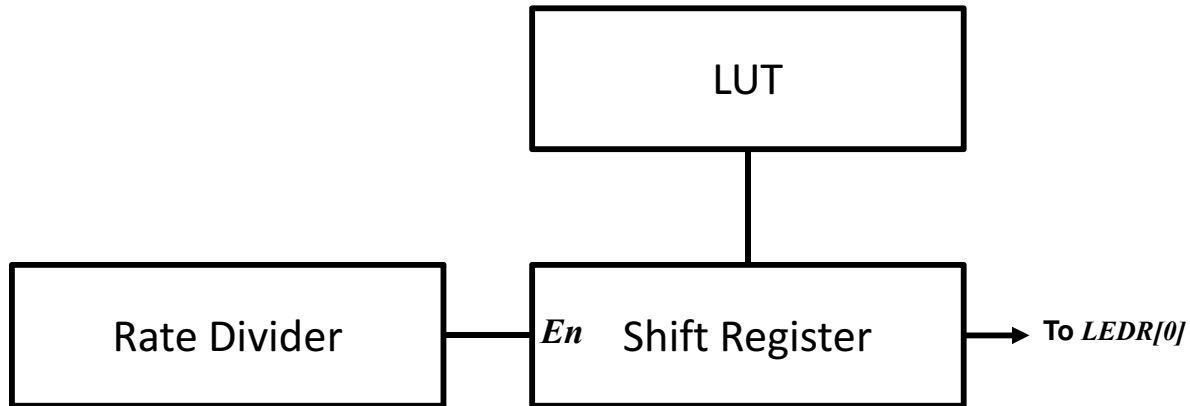

Figure 4: Block diagram of the Morse code circuit
A high-level block diagram of the circuit you are building is shown in Figure 4. Note that various details/connections are not shown there.
2. ✓ Design your circuit by first drawing a schematic of the circuit. Think and work through your schematic to make sure that it will work according to your understanding. You can use Figure 4 as your starting point. You should include the schematic in your prelab. **(PRELAB)**